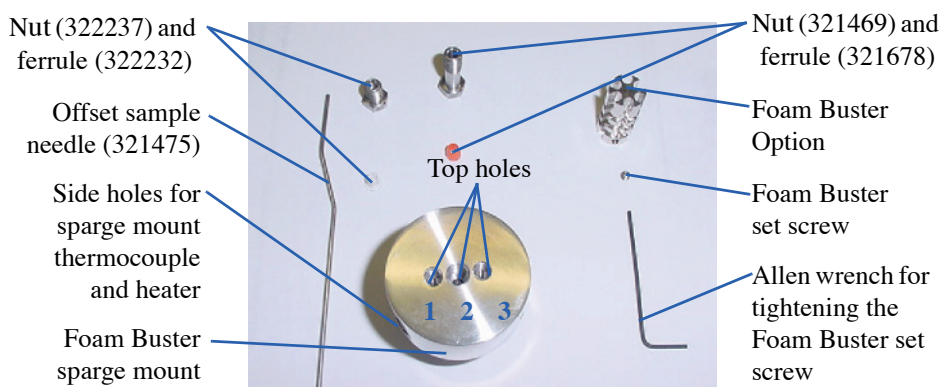

Figure 8.5. Foam Buster option parts
2. Install new 1/16" glass-filled Teflon® ferrules (PN 177626) by placing the tapered end into top holes 1 and 3 of the Foam Buster sparge mount (Figure 8.5).